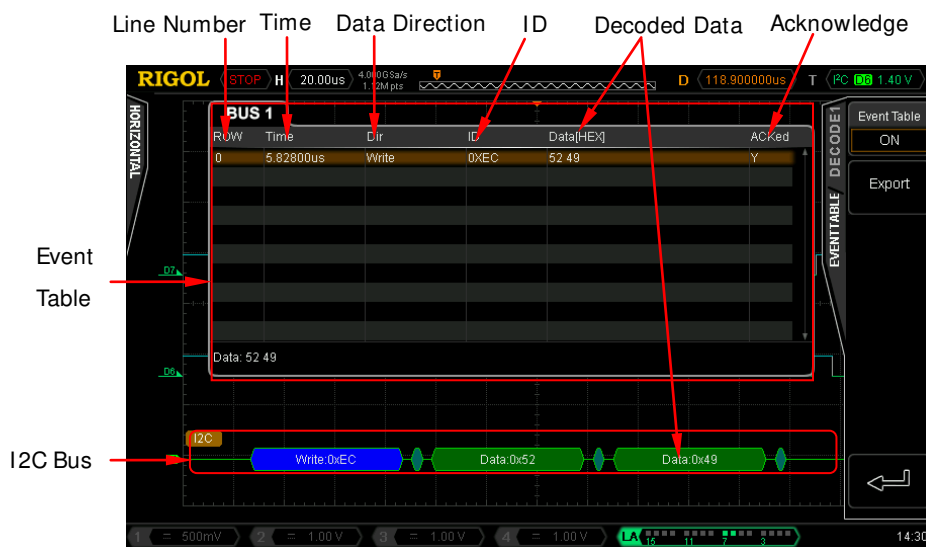

Figure 8-4 I2C Decoding
Press **BusStatus** to turn the Decode1 display on or off. You can also press **Decode1** to switch the current on/off status of the Decode1 display. When the bus display is turned on, the interface is as shown in Figure 8-4.
- 1) Press **Event Table** to turn on or off the event table. When the event table is turned on, the interface is as shown in Figure 8-4.